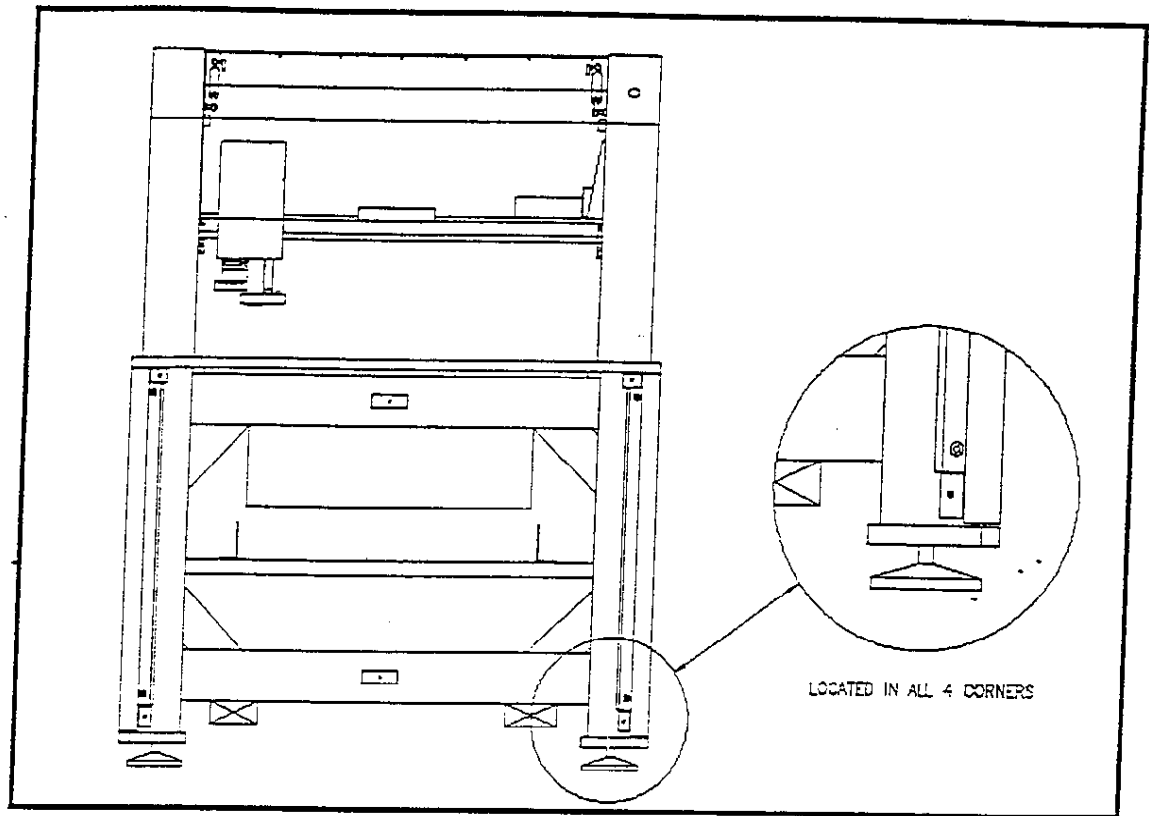

FIGURE 3
9. Before lowering the machine to the floor, attach the 4 leveling pads into the holes located in the leveling pad mounting plates. Be sure to leave about one inch of the threads exposed between the leveling pad and the plate to allow for minor adjustments in either direction. (SEE FIGURE 3).